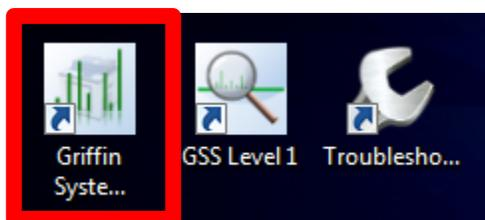

Figure 4.1 – Griffin System Software Icon
1. Open Griffin System Software (*i.e* Level 2) (Figure 4.1).